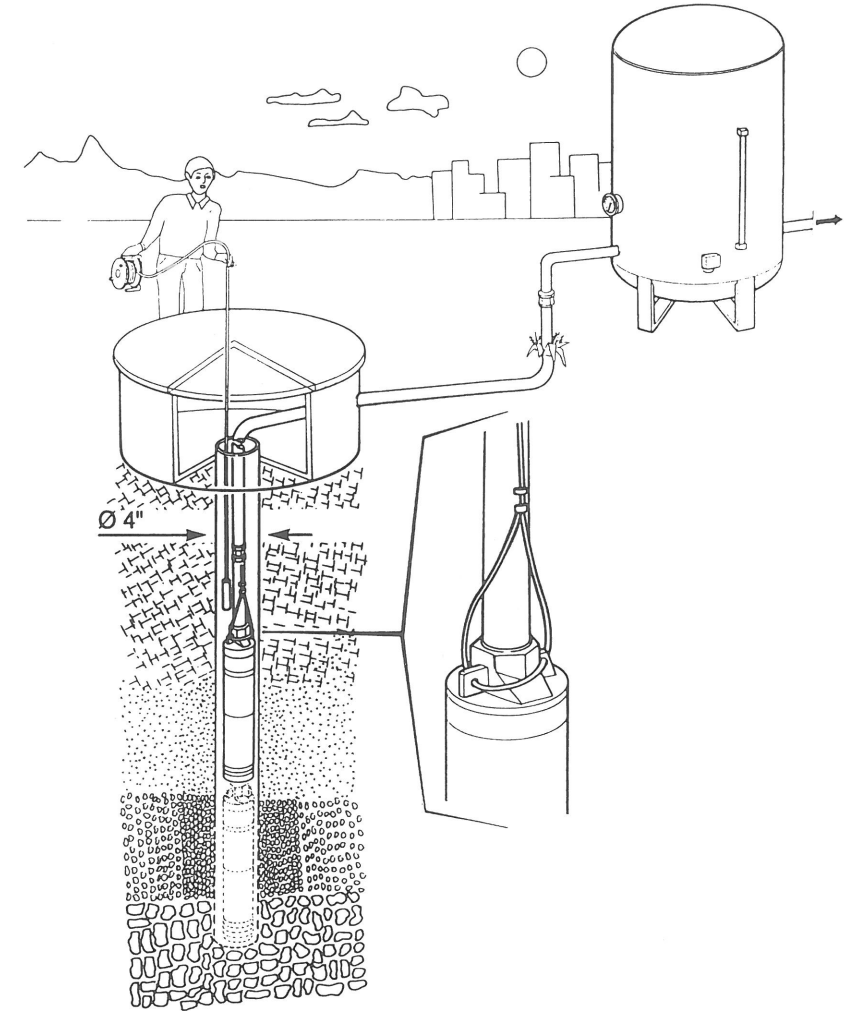

fig. 2 - Abb. 2 - fig. 2
15.2. SCHEMA INSTALLAZIONE (fig. 2)
15.2. INSTALLATIONS-SCHEMA (Abb. 2)
15.2. DIAGRAM FOR INSTALLATION SPACES (fig. 2)
15.2. ESQUEMA INSTALACION (fig. 2)
15.2. SCHEMA INSTALLATION (fig. 2)
- lift the electropump with a safety rope, fixed beforehand and connected to the holes (fig. 2);